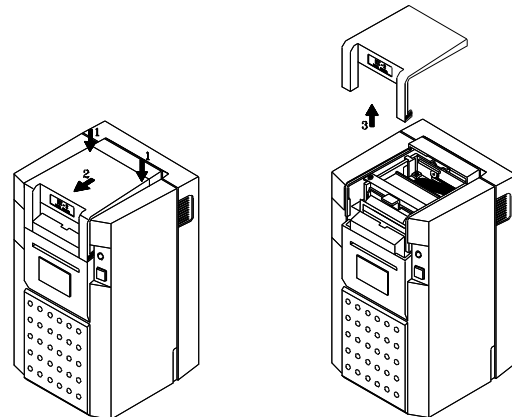

fig. 3.1.1
12. Gently press down the top cover with your thumbs, and pull it toward you to remove the top cover. (See figure 3.1.1)